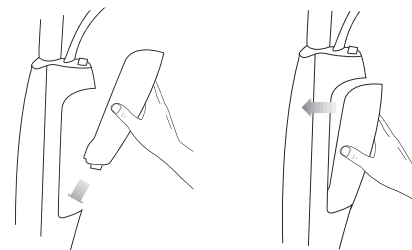

Figure 4
3. Replace Water Tank by inserting Water Tank Cap inside the cavity of Body, then push Water Tank forward until locked into place (Figure 4).